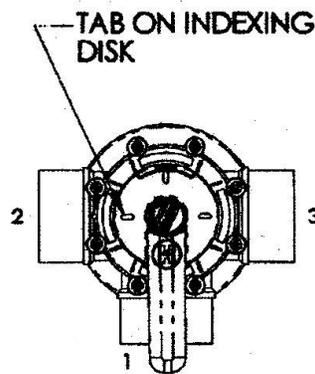

FIG 2
- Position indexing disk as shown in Fig. 2.